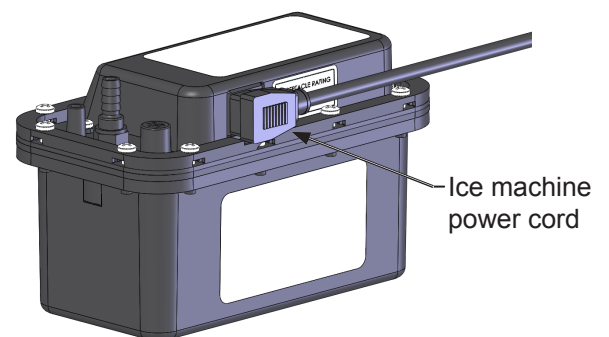

Figure 40
5. Disconnect the ice machine power cord from the drain pump (See Figure 40).